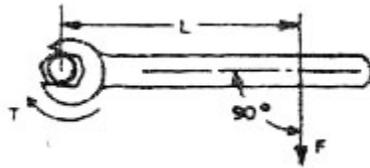

Figure 4-14. Wrench Without Adaptor
2. In Figure 4-14 the lever length of the wrench from the center of the nut to the center of the hand applying the force is represented by "L". The applied force is indicated by "F". Since torque "T" is the product of the applied force multiplied by the effective lever length, it can be calculated by using the formula:  $T = F \times L$ .